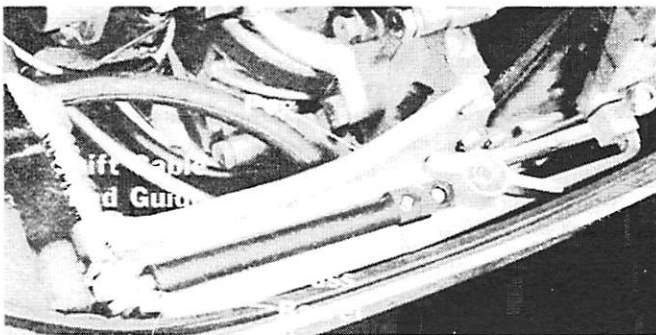

Figure 6. Positioning Brass Barrel and Cable End Guide
4. With motor in forward gear, place barrel (on shift cable) in recess in bottom cowl and cable end guide over peg without disturbing setting as shown in Figure 6. If necessary, readjust brass barrel for correct position and to compensate for cable backlash.